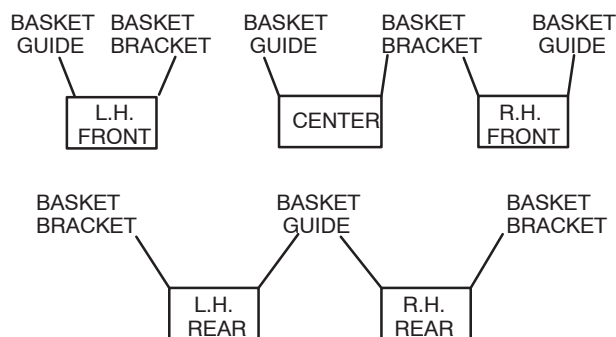
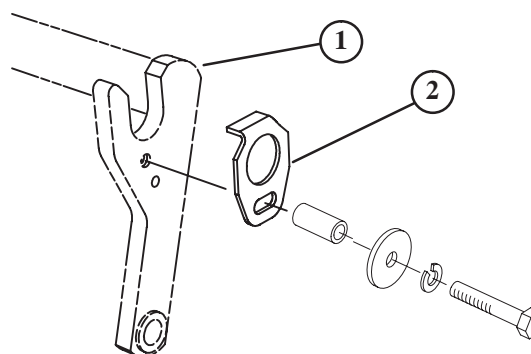
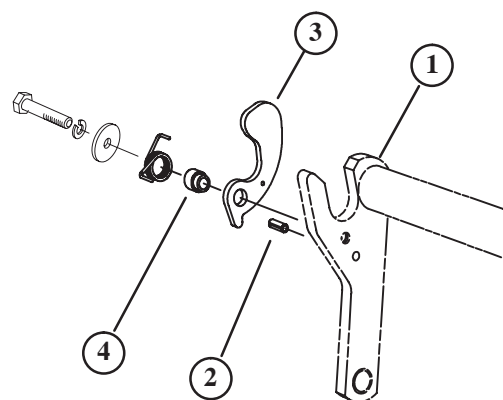

Figure 5
Figure 6
Figure 7
- If baskets will be installed, use chart below (Fig. 5) to determine locations at which basket guides or basket brackets must be mounted to cutting unit carrier frames. If baskets are not to be installed, proceed to step 5.
- Mount a basket guide (Fig. 6) to the appropriate side of each cutting unit carrier frame (see Figure 7) with a capscrew (5/16 x 1-3/4 in.), flat washer, and lock washer or fasteners previously removed, as shown in Figure 6.
- Install a roll pin (Fig. 7) into hole in appropriate side of each cutting unit carrier frame (Fig. 5).